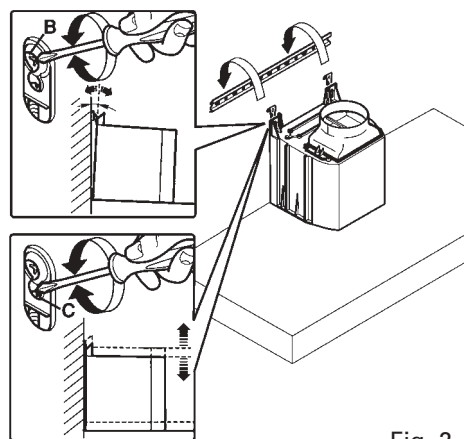

Fig. 2
- Hook the range hood to the support bar (Fig. 2).
- Adjust the alignment of the range hood using the screws on the brackets (Fig. 2). The top screw (B) adjust the distance from the wall, the bottom screw (C) adjust the height.